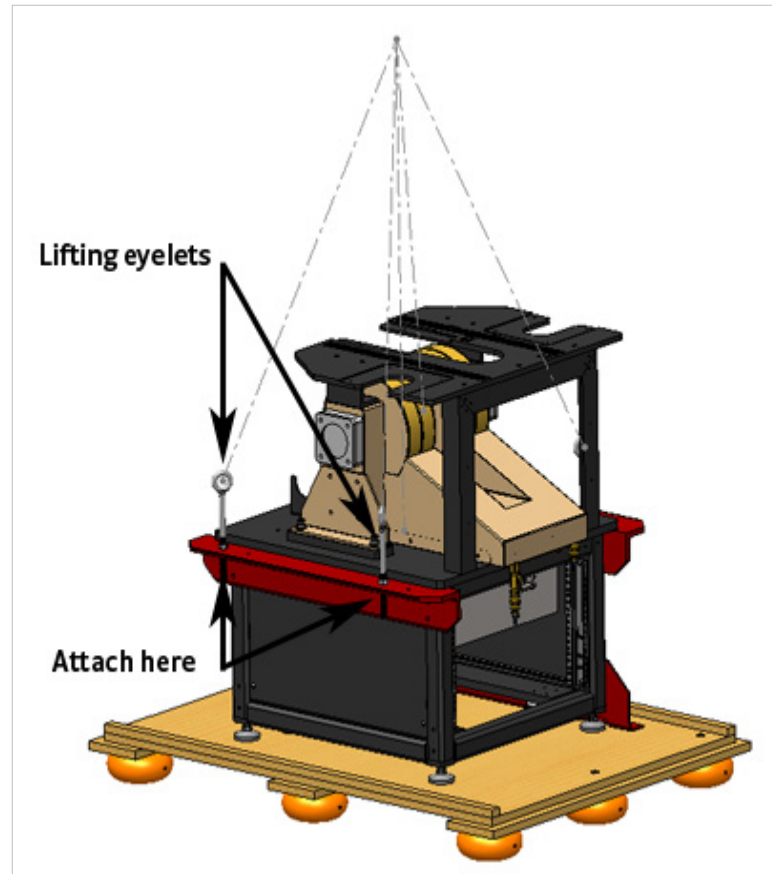

FIGURE 3-5 Location for reattaching the lifting brackets and eyelets, and proper lifting with lifting equipment
4. Using the same bolts, attach the lifting brackets to the middle of the measurement platform (FIGURE 3-5).
5. Attach the four lifting eyelets to the lifting brackets as shown in FIGURE 3-5.
6. Attach lifting equipment to the four lifting eyelets on the red upper lifting brackets attached to the measurement platform (FIGURE 3-5). When lifting the measurement platform, lifting straps or chains should not come into contact with the measurement platform except at the eyelets, as shown in FIGURE 3-5.